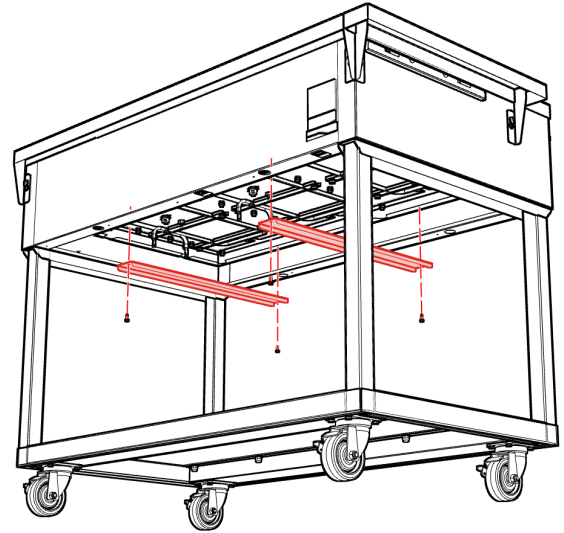

Fig. 11
2. For EACH bracket, remove two (2) M4.8 × 13 mm hex head screws fastening insulation brackets to unit (Fig. 11). Drop brackets and insulation out of unit.